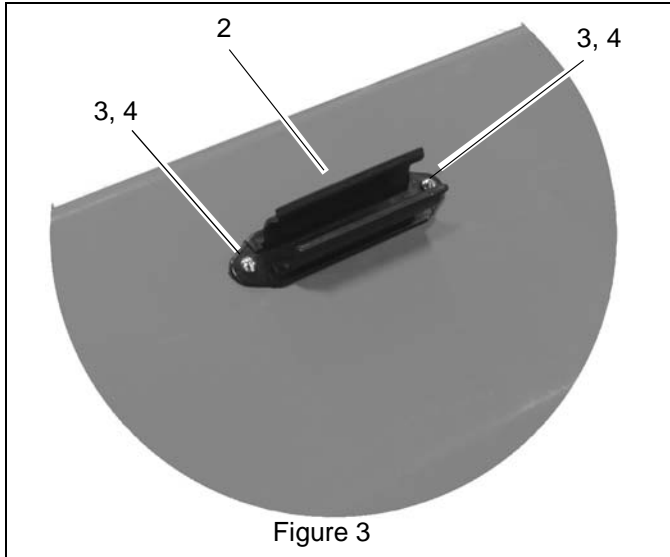

Figure 3
4. Install the snow clean-out tool mount (item 2) on the auger housing with two 10-24 x 1/2 round head slotted machine screws (item 4) and two 10-24 nylon lock nuts (item 3) as shown in Figure 3.